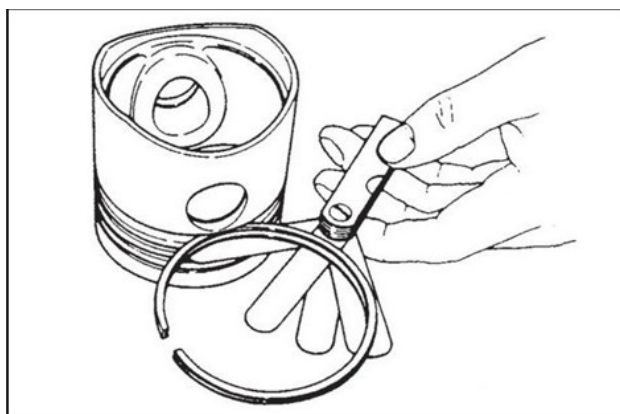

Figure 122.
8. Place each compression piston ring in the groove as shown (Figure 122). Use a feeler gauge to measure the clearance between the piston ring and the piston ring land. Record the measurements. See Piston Ring mechanical specifications chart. Replace the piston if not within specification.